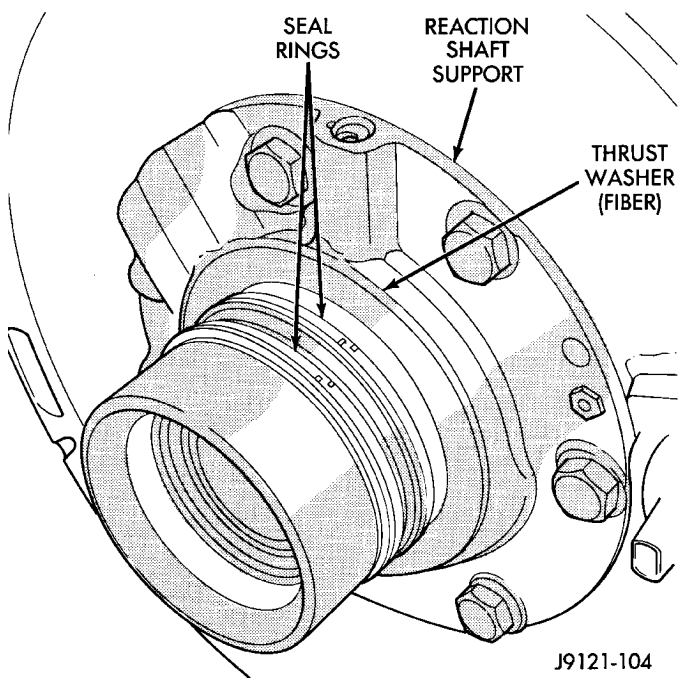
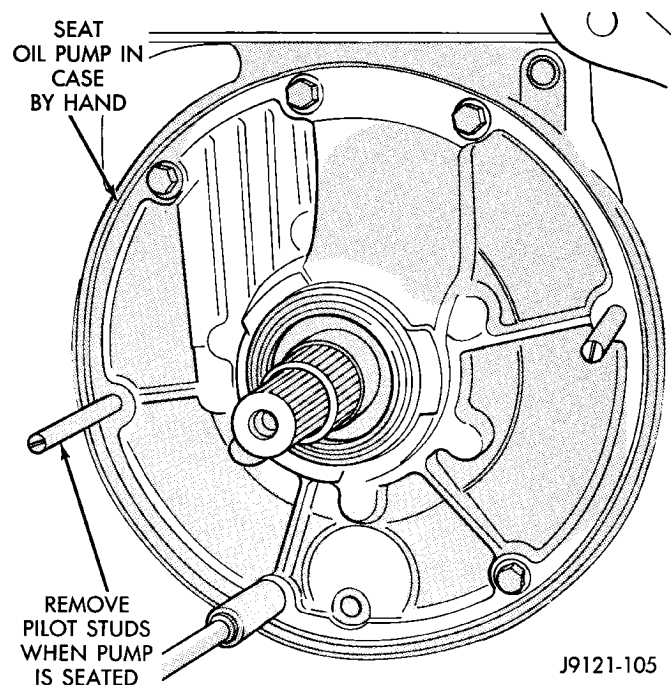

Fig. 142 Reaction Shaft Seal Ring And Thrust Washer
Fig. 143 Oil Pump
(4) Check seal rings on reaction shaft support. Be sure rings are hooked together correctly. Also be sure fiber thrust washer is in position (Fig. 142). Use extra petroleum jelly to hold washer in place if necessary.
(5) Lubricate oil pump seals with petroleum Mopar® ATF Plus 3, type 7176.
(6) Mount oil pump on pilot studs and slide pump into case opening (Fig. 143). **Work pump into case by hand. Do not use a mallet or similar tools to seat pump.**
(7) Remove pilot studs and install oil pump bolts. Tighten pump bolts alternately and evenly to fully seat pump in case. Then final-tighten pump bolts to 20 N·m (15 ft. lbs.) torque.
(8) Verify correct installation. Rotate input and intermediate shafts and check for bind. If bind exists, components are either mis-assembled, or not seated. Disassemble and correct as necessary before proceeding.